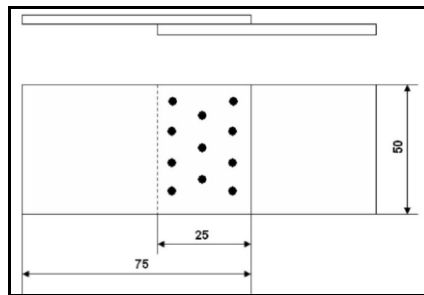

Figure 4.1. Spot Lap Joint 1
- This causes to develop a pressure of about 200-1000 Kg / cm² on the sheets for figure 4.1